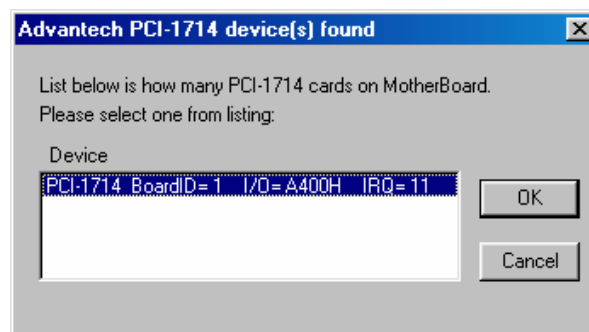

Fig. 2-5 The “*Device(s) Found*” dialog box
Step 3: Scroll down the *Supported Devices* box to find the device that you wish to install, then click the **Add...** button to evoke the *Existing unconfigured PCI-1714* dialog box such as one shown in *Fig. 2-5*. The *Existing unconfigured PCI-1714* dialog box lists all the installed devices on your system. Select the device you want to configure from the list box and press the **OK** button.